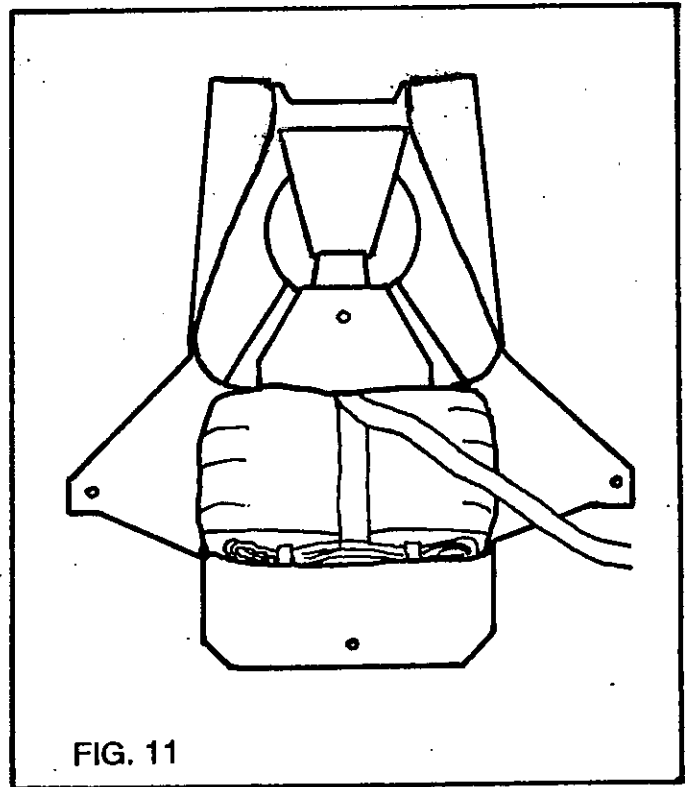

FIG. 11
6) Lay the reserve risers into the reserve container so that they lie flat with no twists. The connector links should now be in the bottom corners of the container. Thread the pullup cord thru the reserve closing loop and then pass both ends up through the grommet in the free bag. Lay the bag into the reserve container so that the line stow pouch is on the underside, and the locking stows are toward the lower end of the container. Route the bridle out the bottom of the container and close the side flaps, either side first, securing with a temporary pin (FIG. 11). Leave the tuck flaps out until all but the top flap have been closed. They will be used then to help "dress" the container.